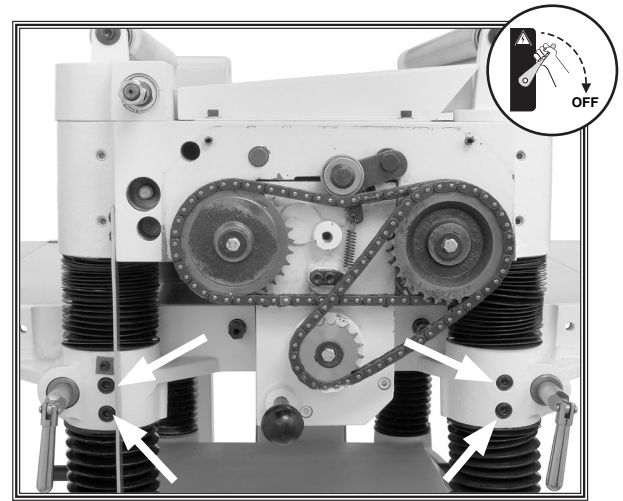

Figure 24. Table micro-adjustment screws.
9. Micro-adjust the table position by loosening the cap screws (**Figure 24**) using a 6mm wrench, and lifting the table upward or downward until the table and cutterhead are in alignment.